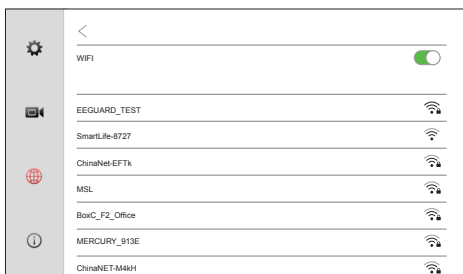

Figure 7
Step 2: After turning on Wi-Fi, a Wi-Fi list will pop up, click the Wi-Fi account in the list, enter the password and connect to Wi-Fi, as shown in Figure 7 & 8.